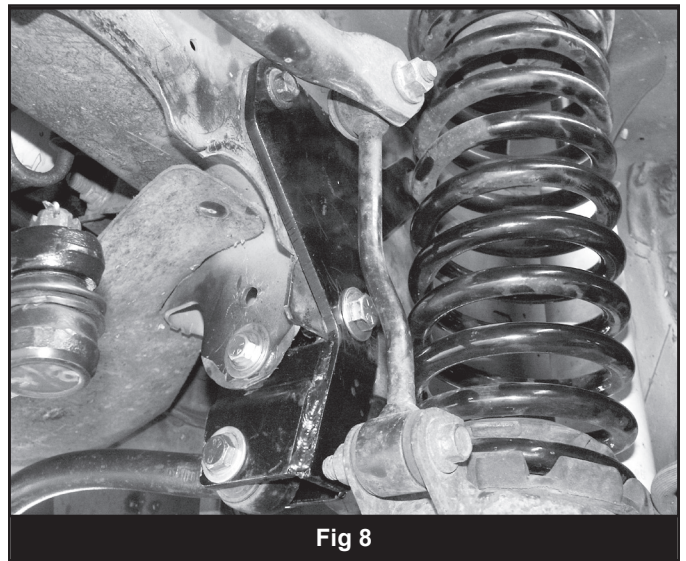

Fig 8
18. Slide the provided track bar bracket (01491) in place (Fig 8). Position the provided 3/16" thick spacer washers (BP #727) between each of the upper mounting holes in the bracket and the body. Attach the bracket through the motor mount holes with 10mm x 120mm bolts and 3/8" USS flat washers (BP #727). Leave hardware loose.